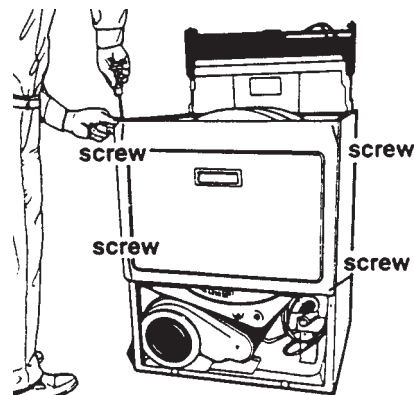

Fig. 4-34
4. Release the two (2) door springs.
6. Remove the two (2) screws at the bottom and the two (2) screws at the top of the front panel. (Fig. 4-34)